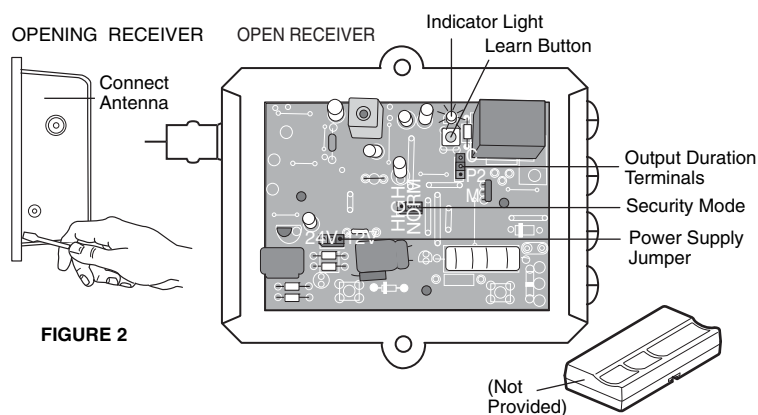

FIGURE 2
1. Pry open the front panel of receiver case with a coin or a screwdriver. Re-connect power to opener (Figure 2).